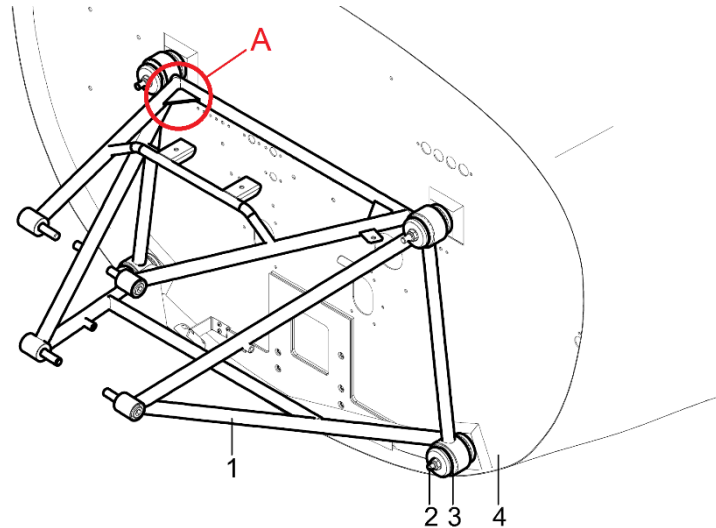

Fig. 1 Engine mount for fixed landing gear and critical area
The fixed gear engine mount (1, Fig. 1) is welded tube construction, attached to the firewall (4) by means of bolts (2) and rubber silentblocks (3).
It is necessary to focus the check for deformations and cracks in the critical area of fixed gear engine mount during 25-hour, 50-hour and each periodical 100-hour / annual inspection (Fig. 1).